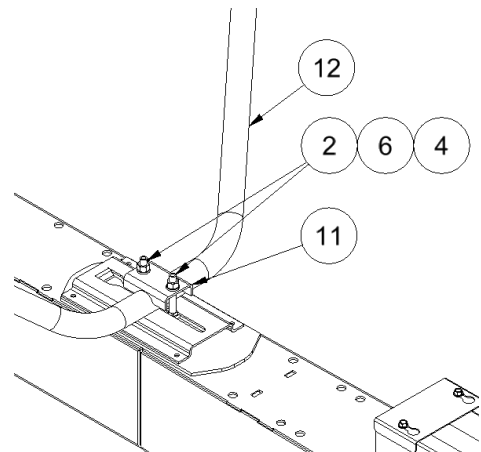

Figure 11
11. Position the Board Brace Clamp, item 11, over the Board Brace yoke, item 12, and attachment plate on the boom as shown in figure 11. Secure the Clamp with (2) 3/8-16 x 2 1/2" carriage bolts, lock washers and nuts.